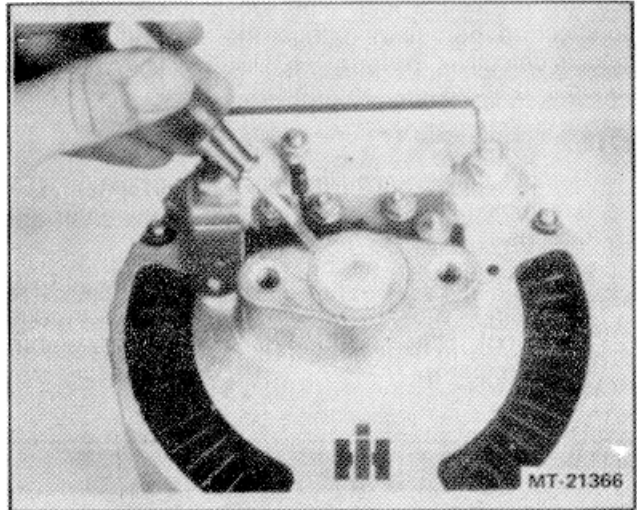

Figure 11 - Removing Dust Cap.
13. Pry flanged dust cap out of housing (See Figure 11).